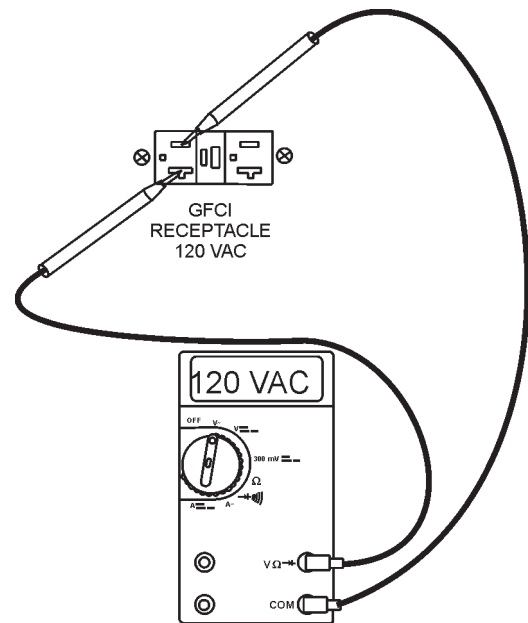

Figure 16. 120 VAC GFCI Receptacle
- If desired, verify with a voltmeter (Figure 16) that 120 VAC is present at the GFCI duplex receptacle.